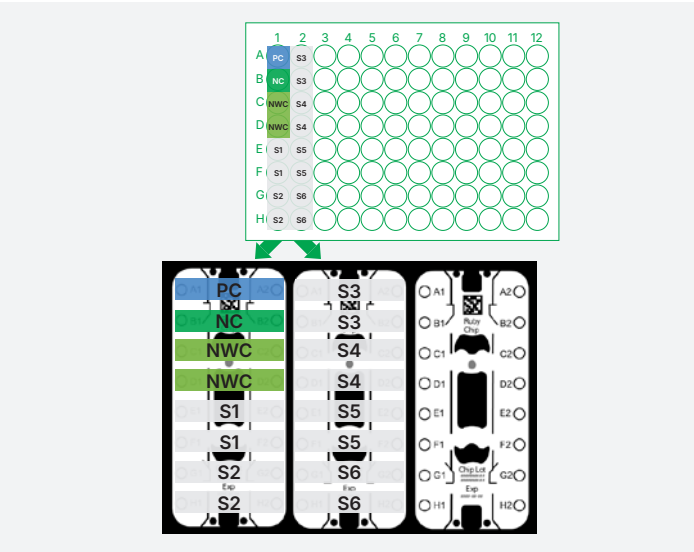

Fig. 1. Protocol schematic. NC, Negative Control; NWC, Negative Workflow Control; PC, Positive Control; S1-S6, samples 1-6.
1. Determine the plate layout prior to setting up the reaction mix. It is recommended to include at least two replicate wells for all controls and samples. Four replicates will maximize sensitivity. Reactions are set up in pairs of wells to avoid pipetting small volumes (Figure 1).